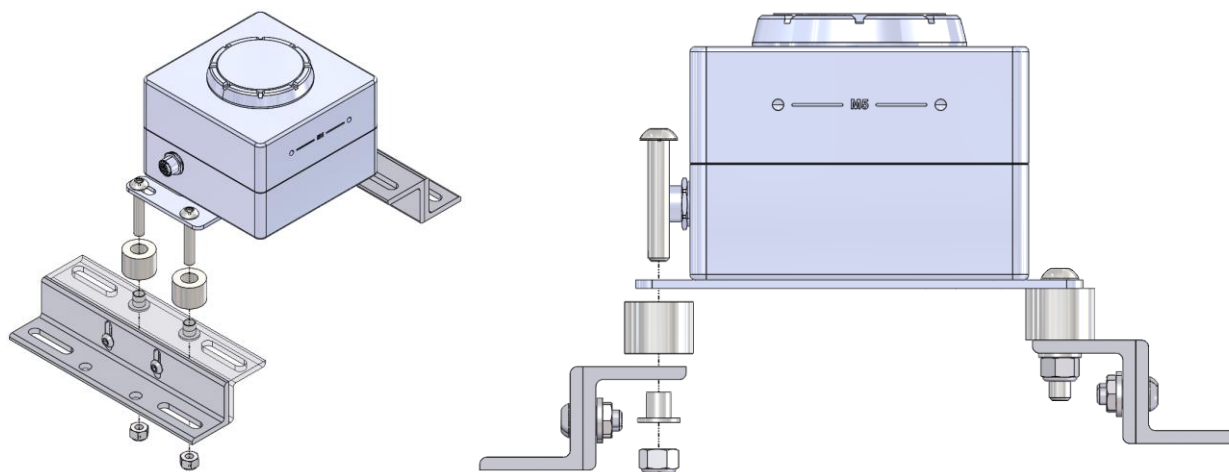

Figure 4: Mars™ to Angle Brackets Assembly
2. Mount the #20462 Mars™ Soiling Sensor to the angle bracket assemblies using #20238 screws, #20240 spacers, #18251 sleeve washers, and #14979 nyloc nuts, following the hardware stack-up shown in Figure 4. Tighten using a 3/16" hex driver and a 9/16" wrench or socket.